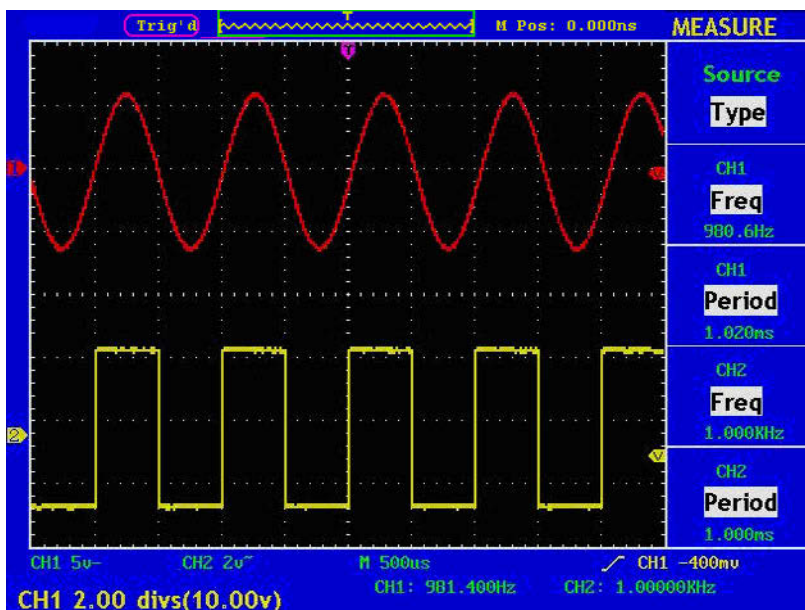

Figure 33. Information about Vertical Position.
- 3 When the vertical position of the channel wave form is adjusted, the screen shows the information concerning the vertical position at the lower left corner (see Fig. 33).